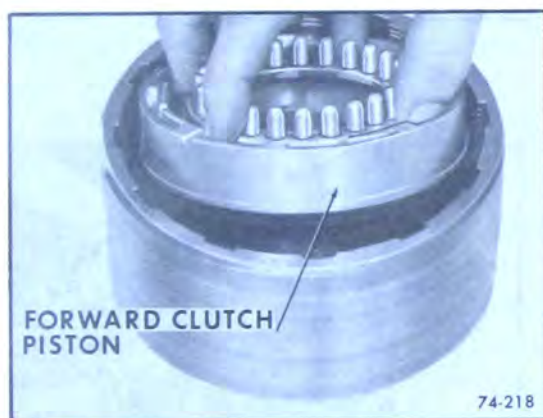

Figure 74-218
9. Lift up on forward clutch piston with a twisting motion and remove. See Figure 74-218.